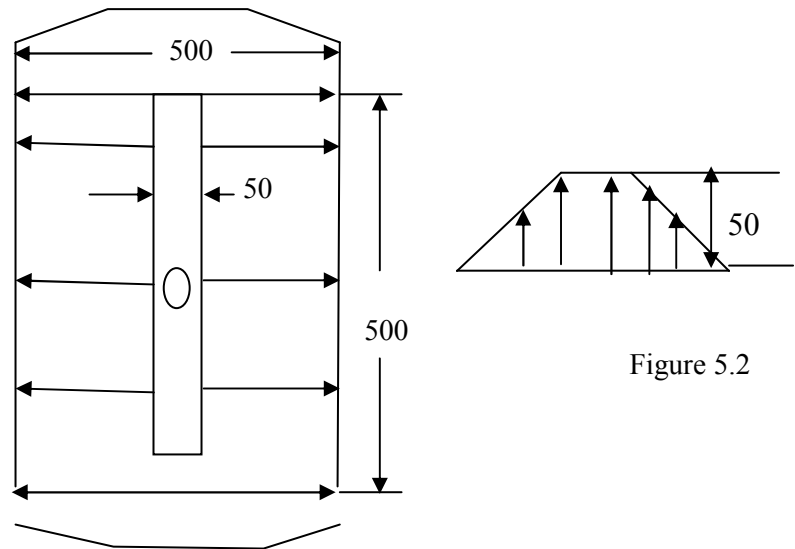

Figure 5.1
- (b)** The developed view of a hydrostatic bearing is shown in **figure 5.1**. Consider the flow in the direction shown by arrows and neglect the flow in the other direction and over corners. The pressure distribution is linear as shown in **figure 5.2**. The thrust load is 500 KN and the film thickness is 0.2 mm. the viscosity of the lubricant is 500 centipoise. Calculate the supply pressure and flow requirement. **06**